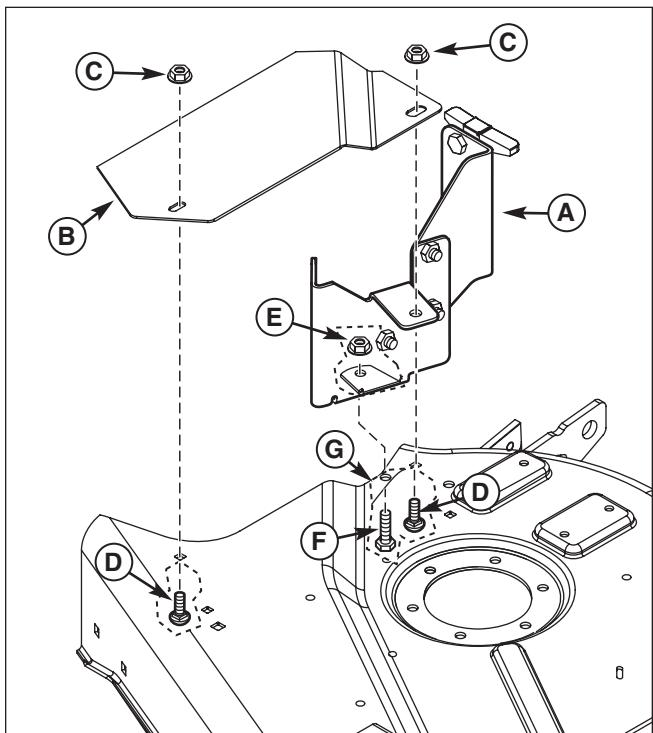

Figure 4. Install Discharge Baffles - 44" and 50" Mower
1. Install discharge baffle (A, Figure 4) to stone guard (G) using 5/16-18 x 7/8 capscrew (F) and 5/16-18 locknut (E) as shown.
2. Install discharge baffle assembly (A) to mower deck over cover (B) using 1/4-20 x 3/4 carriage bolt (D) and 1/4-20 locknut (C) as shown. Do not tighten hardware at this time.
3. Install front of cover (B, Figure 4) to front of mower deck using 1/4-20 x 3/4 carriage bolt (D) and 1/4-20 locknut (C). Do not tighten hardware at this time.